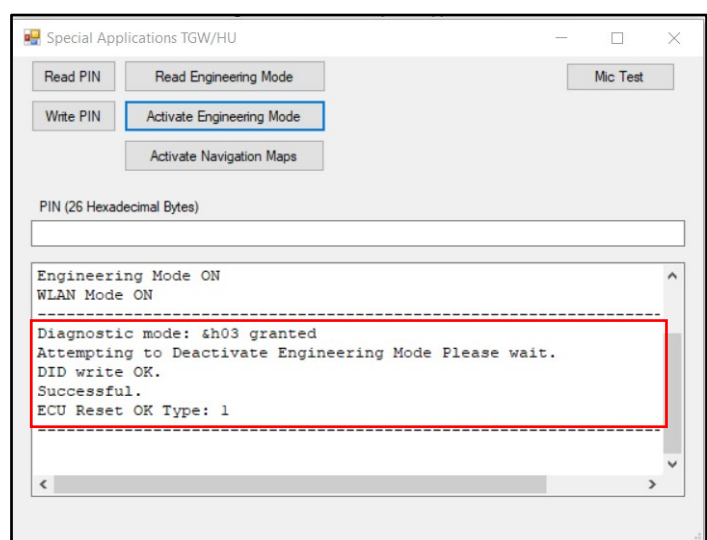

Figure 17
29. Check 'Engineering Mode' is off. (refer to Figure 17).